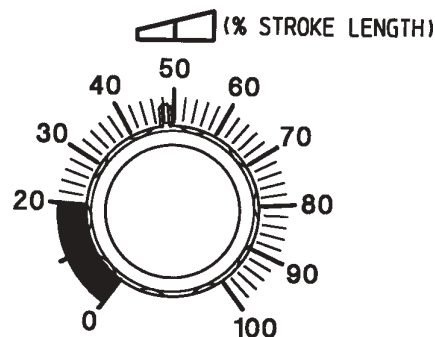

Figure 3.3
3.4.2 Stroke Length Adjustment (See Figure 3.3)